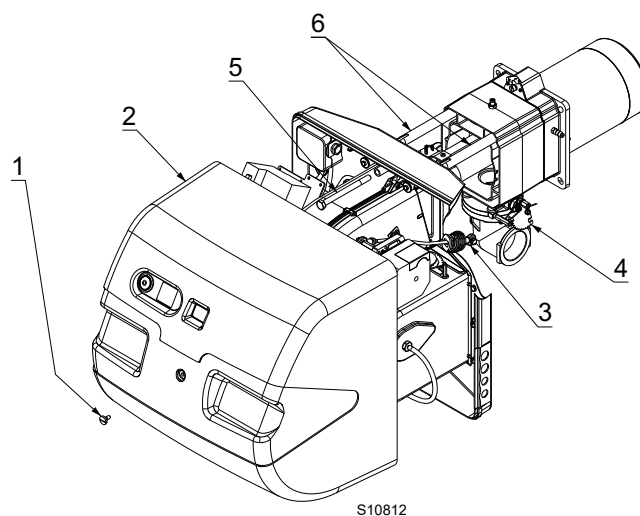

Fig. 34
- remove the screw 1) and pull out the hood 2)(Fig. 34).
- Disengage the articulated coupling 3) from the graduated sector 4)(Fig. 34).
- Now extract the gas distributor 7) after having removed the screw 8)(Fig. 34).